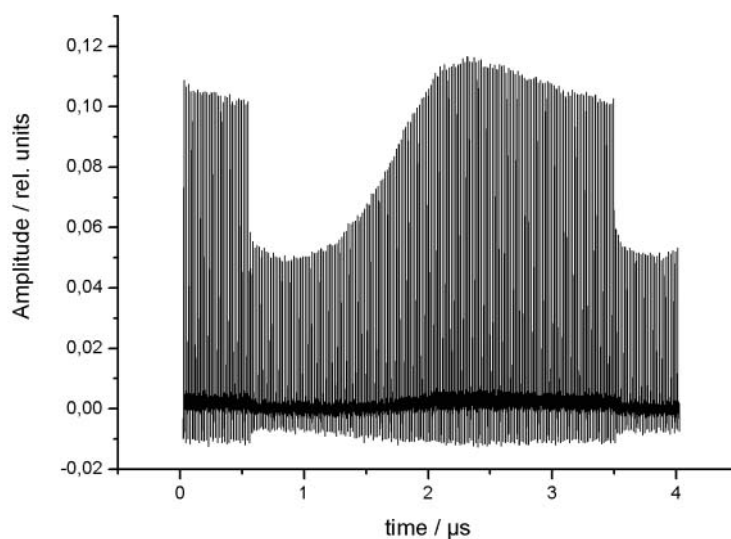

Fig. 23 Typical intracavity pulse train in cavity dumped operation with approximately 50% diffraction efficiency
1. Switch off the cw mode at the CW button and the RF-Power (RF-ON button) and bring the system into mode-locked operation by closing the slit and monitoring the pulse with an oscilloscope. Pay attention that the system does not generate double pulses. Switch on the RF-ON button. Now a modulation of the pulse train with a period of 100 pulses should appear on the oscilloscope. The first small pulse of this period is the diffracted pulse. The intracavity pulse then needs about 100 (or even more) round trips to reach the steady state energy level again. The amplitude ratio between the diffracted pulse and its preceding non-diffracted pulse is a measure of the diffraction efficiency. Fig. 23 shows a typical intracavity pulse train from the SEED MONITOR output as seen on an oscilloscope.